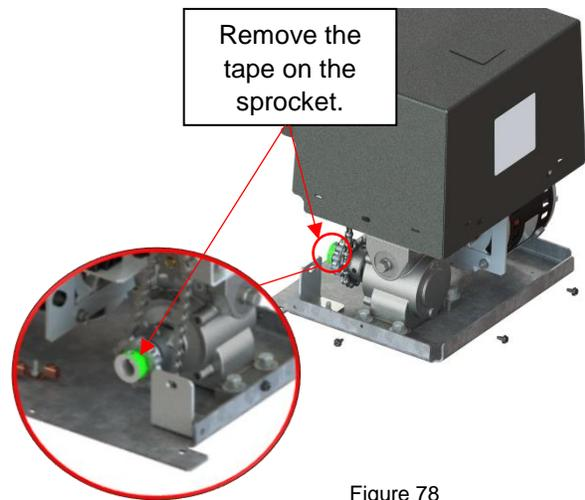

Figure 78
- 11) Remove the four slotted screws at the bottom of the operator and remove the cover. Do not discard these screws. (Figure 78)